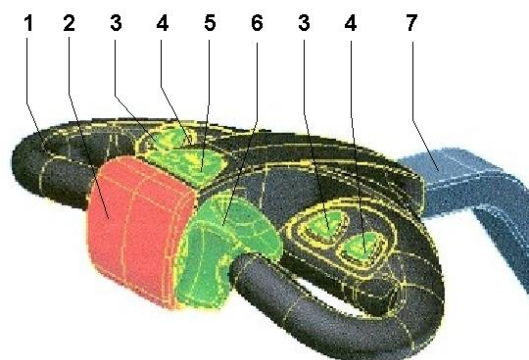

Fig. 2
- check the jam safety on the steering handle by pressing the safety switch (2, fig. 2), the V-move XXL should not start in that case.
### Steering handle (Tiller head) (fig. 2)